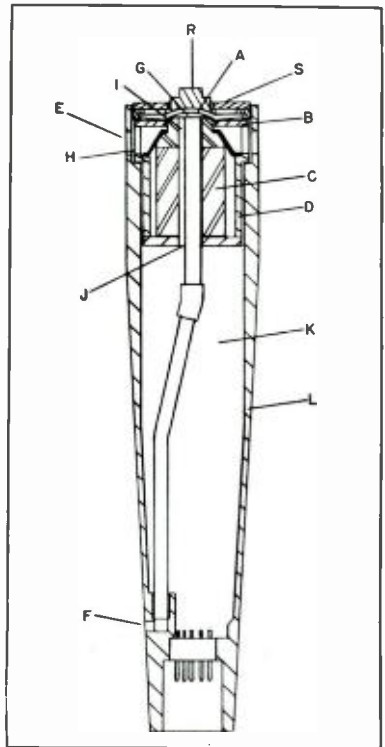
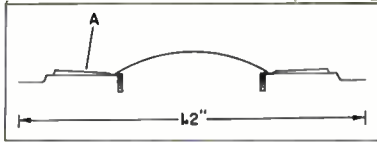

Fig. 9. Cross section of the cardioid microphone.
Fig. 10. Section of the cardioid diaphragm and voice-coil assembly showing the long compliance sections necessary for low resonance.
The curves (A) and (B) of Fig. 9 were run under identical conditions with the exception of the fiberglass stuffing. The curves are untouched (no microphone correction, curve tracer correction, etc.). They are intended to show only differences. The odd shape of the bass end is due mostly to the anechoic room environment.
*Figure 9* shows a schematic to illustrate the various sound entrances essential to the performance of such a unit. The cardioid pressure unit consists of the diaphragm and voice coil assembly, A;
pole plate, B; magnet, C; magnetic return, D; high-frequency entrance, E; low frequency entrance, F, which terminates at the sound pressure mixing chamber, G; acoustical resistance, H; an anti-resonant barrier, I; cavity communicating tube, J; main cavity, K and the housing, L. The diaphragm/voice-coil assembly which is the heart of the structure is best described by showing it in a separate drawing, *Fig. 10*. For this design, the device must be mass controlled, which dictates a low resonance point to encompass as large a part of the acoustical spectrum as possible. If
the resonance, however, is chosen to be too low, the structure will be too sensitive to shock excitation and currents of air. The chosen 120 cps resonance represents a compromise of those two factors. Since the mass of the voice coil and diaphragm assembly controls the sensitivity of a microphone, the reduction of the resonance can best be accomplished by increasing the compliance. This is why the cardioid diaphragm configuration contains a long compliance section, a, in *Fig. 10*. Otherwise, the remaining parts of the structure are very similar to the omnidirectional design. Because of this, the diameter of the diaphragm is considerably larger and measures 1.2 in. Going back to *Fig. 9*, the zero-incidence sound actuates the front of the diaphragm. At the same time, however, after some delay due to a longer path, the sound enters the high-frequency entrance, E. It, however, is further delayed by passage through the silk layer, H, and its passage through the voice-coil gap which represents an acoustical inductive component. When it strikes the rear of the diaphragm, it is in a different phase relationship in reference to the front sound pressure. To boost the bass response below 120 cps, another entrance is established at F, which is considerably further away from the rear of the diaphragm than point E. The sound entering F is lead through a tube into the mixing chamber of the diaphragm at